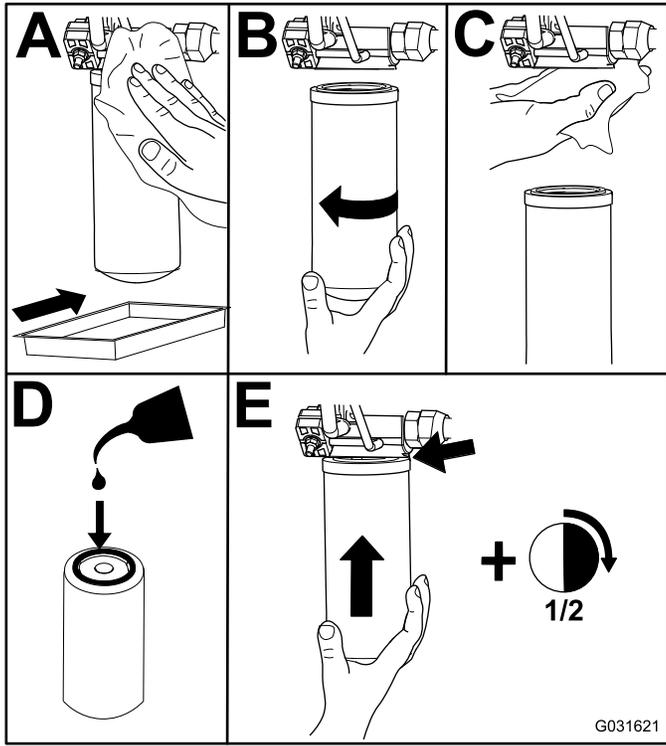

Figure 79
2. Replace the charge hydraulic filter at the hydraulic lift compartment as shown in Figure 79.
4. Replace the return filter at the right side of the machine (Figure 79).